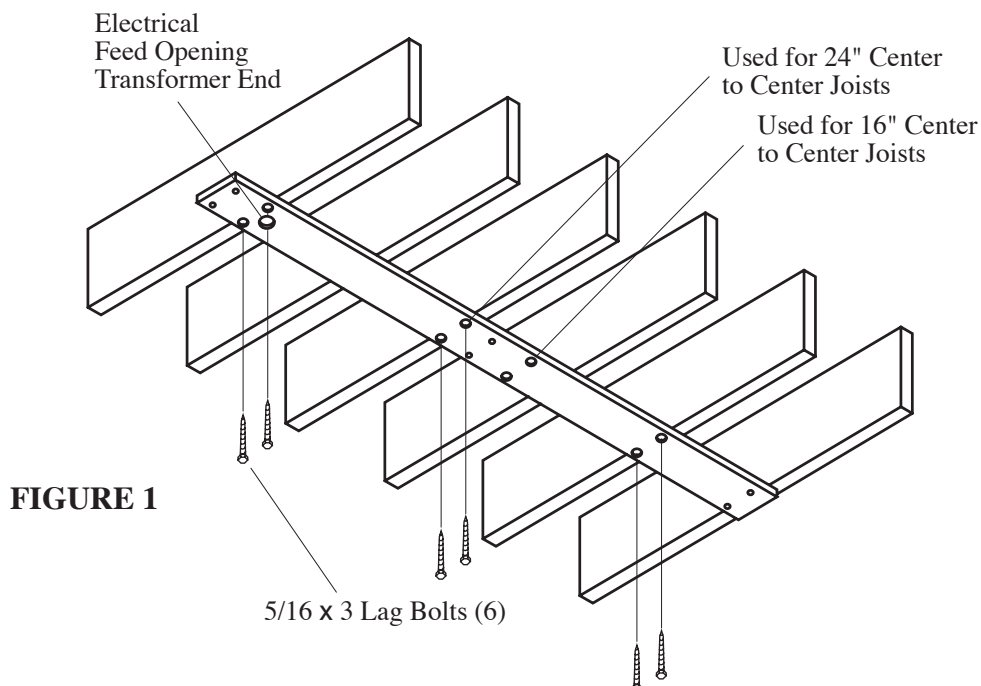

FIGURE 1
- A) In conventional ceilings with **joists perpendicular** to the center line of the light, attach the pallet by **at least 6 - 5/16 x 3" lag screws**. Suitable holes are provided in pallet for most installations, utilizing 16" or 12" cc ceiling joists. For other spacings or locations, additional holes can be cut in pallet. (SEE FIGURE 1.)